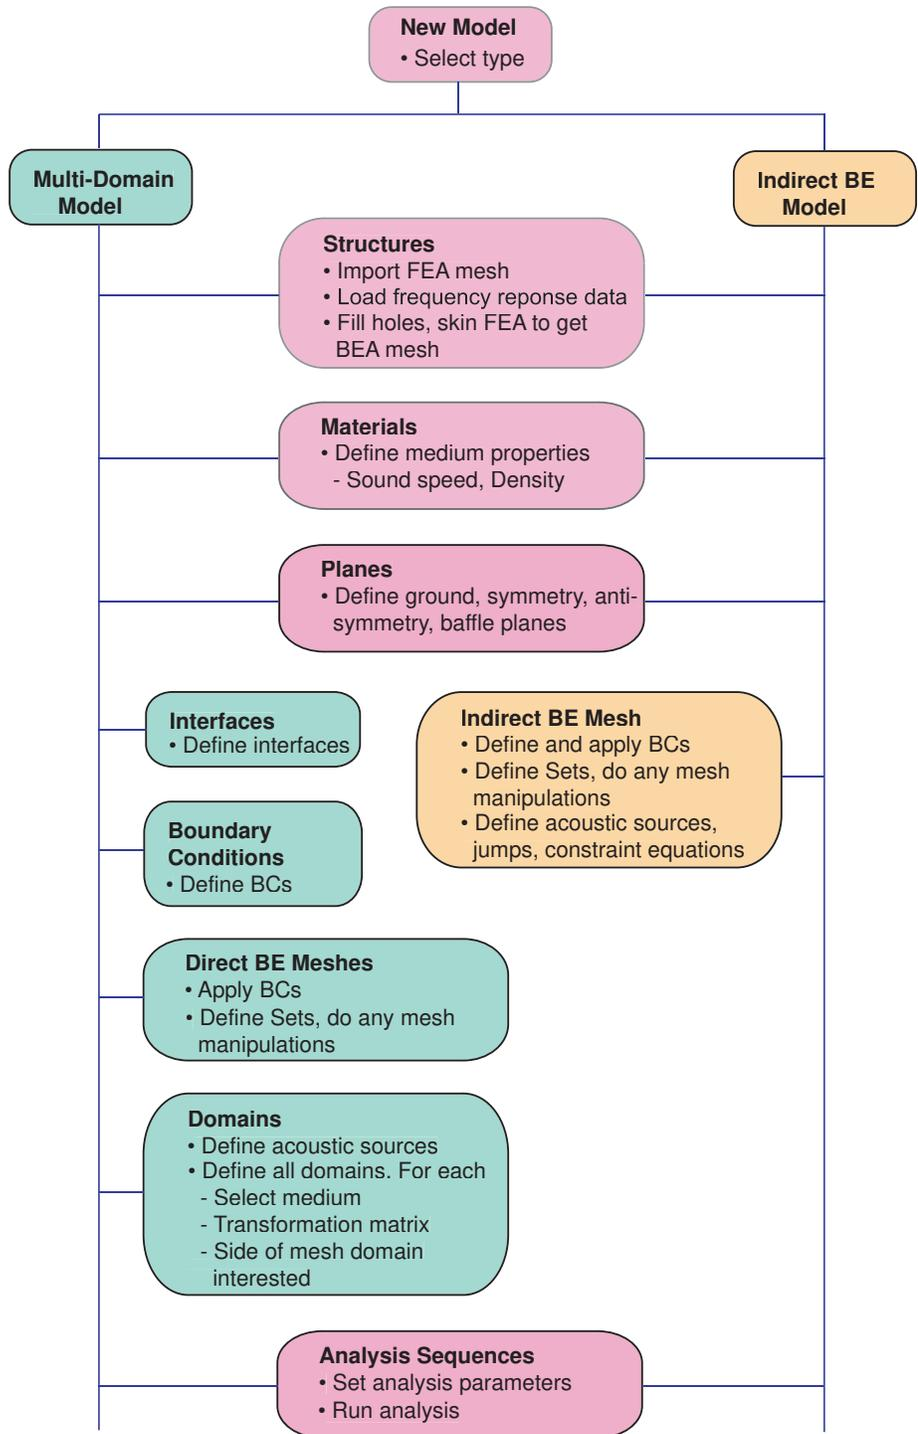

Figure 4.15 Coustyx model tree structure.
*Coustyx* window shows a *tree* structure named **Model** at the top-most level and several branch members fulfilling specific tasks in building the model or running the analysis. The model tree appears at the top left portion of the *Coustyx* window when a model is open or when a new model is created from the *File* menu. Figure 4.15 shows the structure of the **Model** tree for *MultiDomain* and *Indirect Coustyx* models.